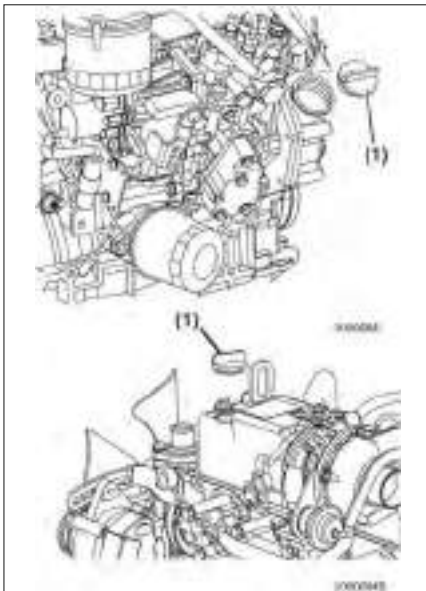

Figure 5-1
4. Remove one of the oil filler caps (**Figure 5-1, (1)**) to vent the engine crankcase and allow the engine oil to drain more easily.